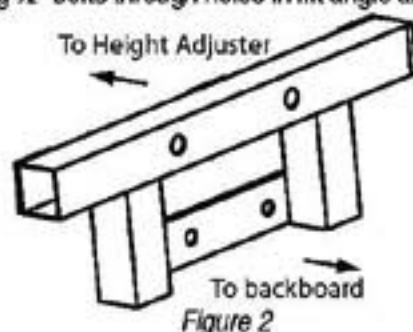

Figure 2
- ② Bolt rectangular or fan bank lift angle to Height Adjuster. These will be used to attach height adjuster to upper mounting holes of backboard. If mounting a rectangular bank: There are two sets of holes on top of the rectangular bank lift angle. For rectangular glass and fiberglass banks, use inside holes; for rectangular wood, use outside holes. On 48" rectangular banks, use spacer to attach lift angle to height adjuster. For glass rectangular banks, also use spacer between direct goal mount and bank (See Fig. 2).
- ③ Bolt Height Adjuster main unit to backstop frame.
- ④ Mount bank and goal to Height Adjuster (see diagrams of completed units on page 2) using 1/2" bolts through holes in lift angle and direct mount.